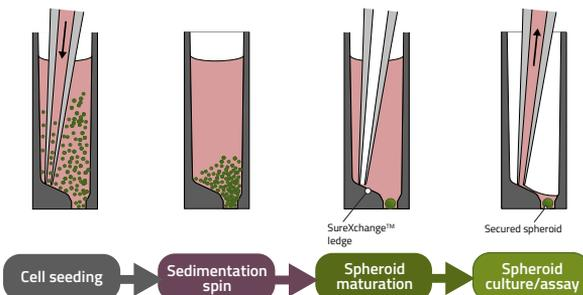

Figure 2. Spheroid formation in the Akura™ 384 Plate.
1. Place the pipette tip at the ledge of the well (Fig. 2).